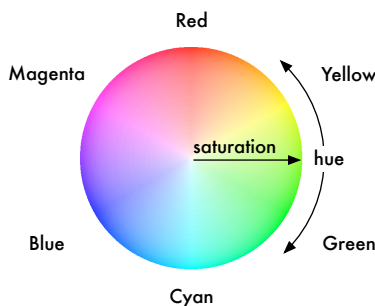

Figure 15.7. The Colour Wheel
- **Hue:** the colour's position in the possible range of colours, from red, going through yellow, green, cyan, blue and magenta, and finally returning to red. As the range 'wraps around', you can visualise it as a circle with the colours positioned around the edge, with red at the top, green at the lower right, blue at the lower left, and the intermediate colours in between. The angle between 0 and 360 degrees specifies the hue of the colour: red has a hue of 0 degrees, yellow has a hue of 60 degrees, and cyan has a hue of 180 degrees. See Figure 15.7, "The Colour Wheel".